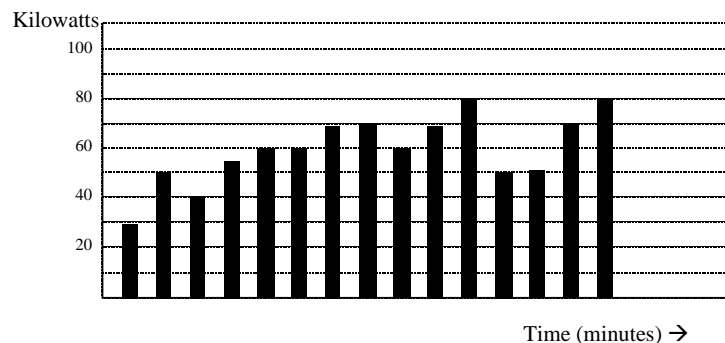

Figure 1.7: Power use over time
- Figure 1.7 shows a graph of power and the resulting energy that would be transmitted as a result of the illustrated power values. For this illustration, it is assumed that the power level is held constant for each minute when a measurement is taken. Each bar in the graph will represent the power load for the one-minute increment of time. In real life the power value moves almost constantly.
- The data from Figure 1.7 is reproduced in Table 2 to illustrate the calculation of energy. Since the time increment of the measurement is one minute and since we specified that the load is constant over that minute, we can convert the power reading to an equivalent consumed energy reading by multiplying the power reading times $\frac{1}{60}$ (converting the time base from minutes to hours).
As in Table 1.2, the accumulated energy for the power load profile of Figure 1.7 is 14.92 kWh.
- Demand is also a time-based value. The demand is the average rate of energy use over time. The actual label for demand is kilowatt-hours/hour but this is normally reduced to kilowatts. This makes it easy to confuse demand with power. But demand is not an instantaneous value. To calculate demand it is necessary to accumulate the energy readings (as illustrated in Figure 1.7) and adjust the energy reading to an hourly value that constitutes the demand.